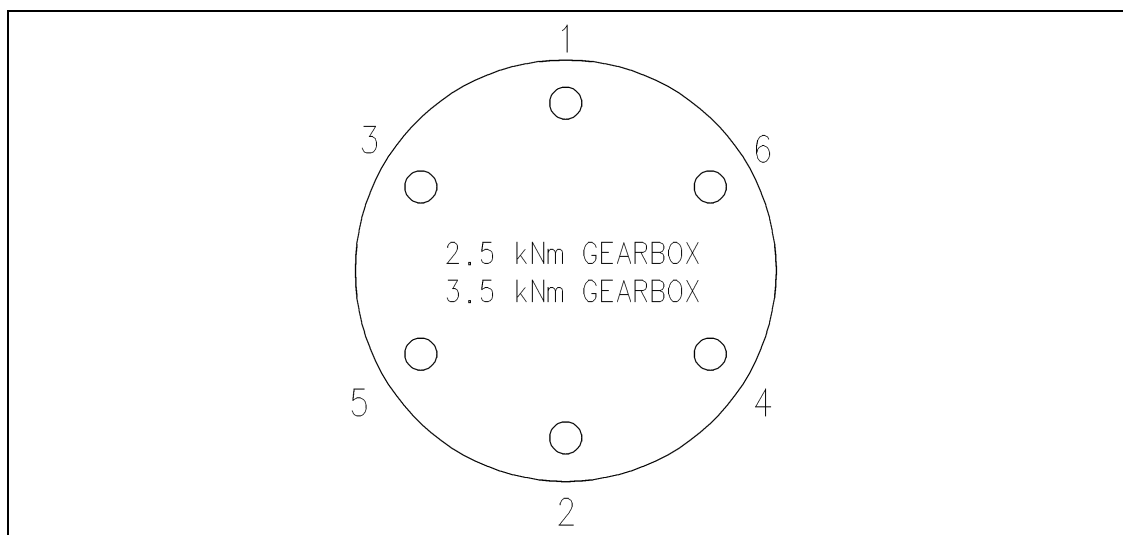

Figure 4.1.8
2.5 kNm Gearbox Insert the six screws (*M16*) assembling the gearbox adapter to the gearbox and tighten them to a torque of 197 Nm (1743 in-lbs) in the sequence shown in Figure 4.1.8.